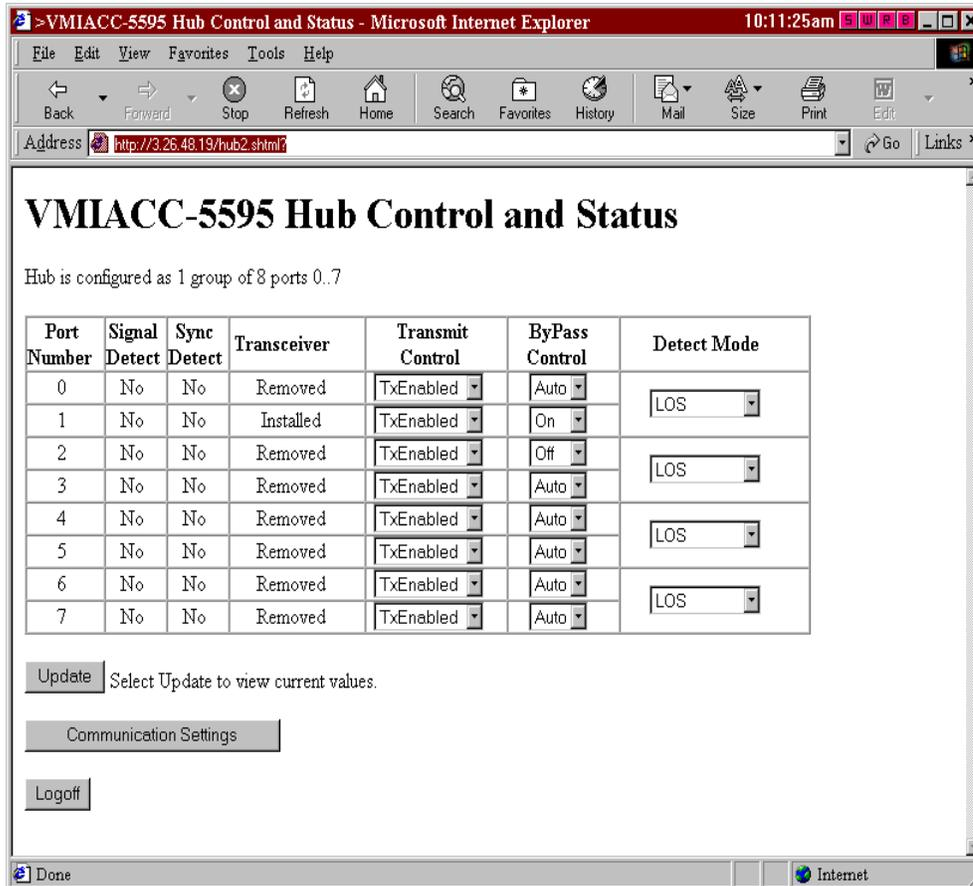

Figure 1-23 VMIACC-5595 Main Screen
3. The following screen is the main screen for the GUI software (Figure 1-23). From here you can control the hub. You can enable and disable any of the transmitters installed, set the detect mode and select the bypass mode condition. Click on the Communications Button and Figure 1-27 on page 45 appears.